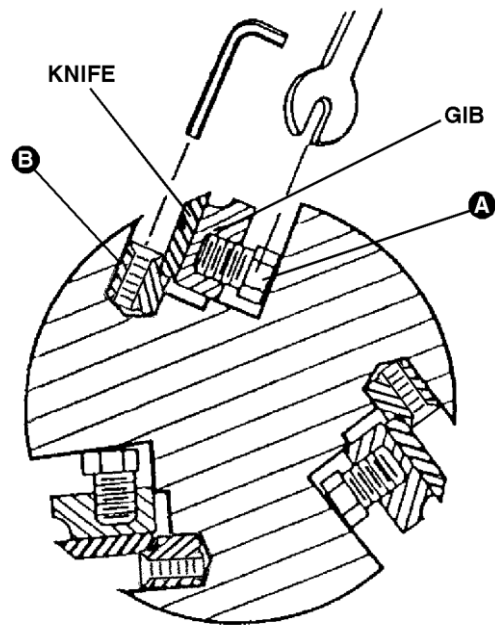

FIGURE 13
Unplug or disconnect jointer from power source and lock out power. When installing new knives remove only one knife at a time. Clean the knife slot and install the new knife. Adjust and lock new knife in cutterhead assembly before proceeding to next knife. To remove the old knives, loosen gib locking bolts (A) with an 8mm wrench, and remove gib, knife, and jack screws, Figure 13. Using a hex wrench, turn jack screws (B) down one turn. Clean the jack screws, gib, knife slot, and knife thoroughly and replace jack screws.